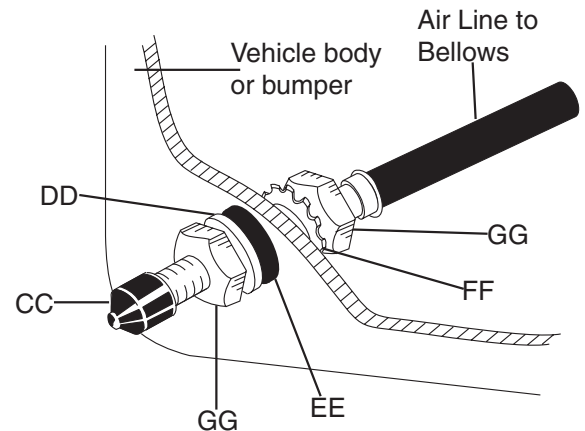

Figure 6
3. Cut the air line assembly (AA) in two equal lengths.
4. Place a  $\frac{5}{16}$ " nut (GG) and a star washer (FF) on the air valve. Leave enough of the inflation valve in front of the nut to extend through the hole and have room for the rubber washer (EE), flat washer (DD), and  $\frac{5}{16}$ " nut (GG) and cap (CC). There should be enough valve exposed after installation - approximately  $\frac{1}{2}$ " - to easily apply a pressure gauge or an air chuck (Figure 6).
5. Push the inflation valve through the hole and use the rubber washer (EE), flat washer (DD), and another  $\frac{5}{16}$ " nut (GG) to secure it in place. Tighten the nuts to secure the assembly in place (Figure 6).